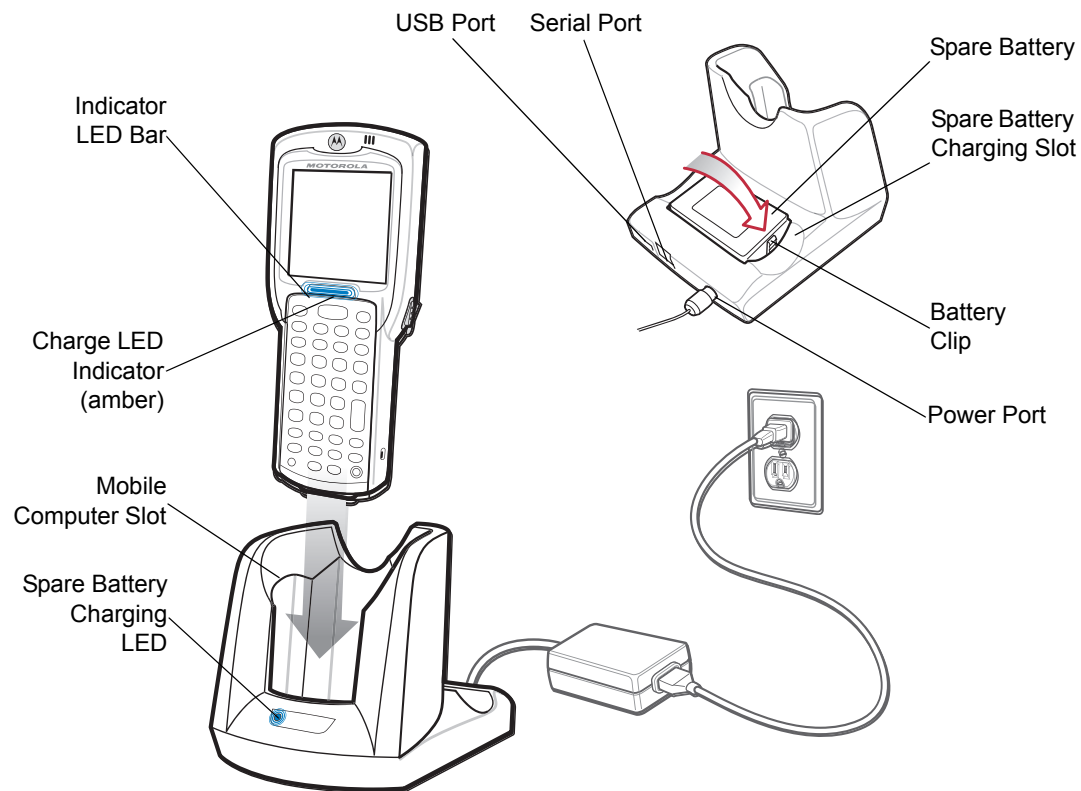

Figure 4-1 Single Slot Serial/USB Cradle
3. The Spare Battery Charging LED (see Figure 4-1 on page 4-3) indicates the spare battery charging status. The Standard Battery charges in less than four hours and the Extended Life Battery charges in less than six hours. See Table 4-1 for charging status indications.